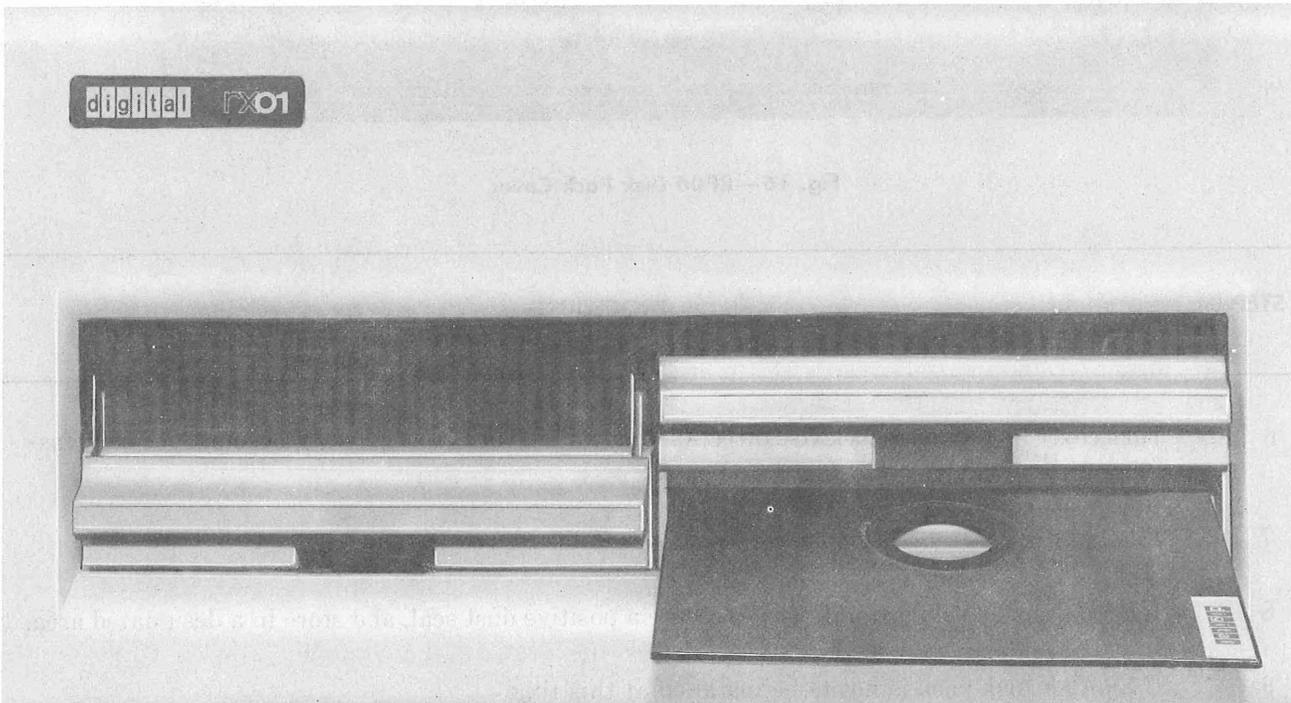

Fig. 17—RX01/RX02 Floppy Disk
8.01 The following procedure describes the RX01/RX02 floppy disk (Fig. 17) installation and removal.